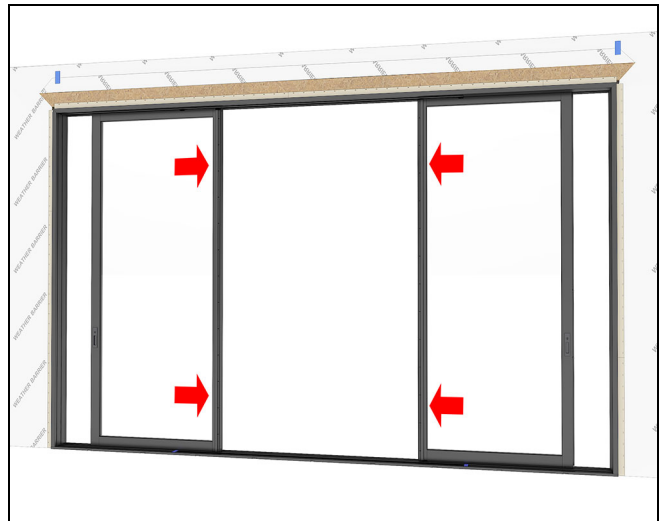

Figure 164
7. Unlock and move the operator panels away from the jambs about 12". See Figure 164.